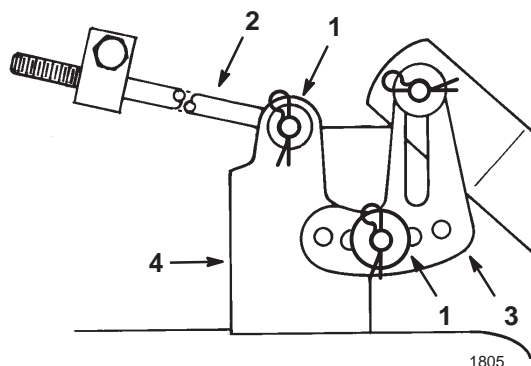

Figure 43
11. Slide the end of the long rod through the hole in the mower mount (Fig. 43).
13. Mount the slotted mower leveling bracket onto the pin on the height-of-cut arm (Fig. 43). Install the washer and hairpin cotter to secure the mower. Repeat this step on the opposite side of the mower.